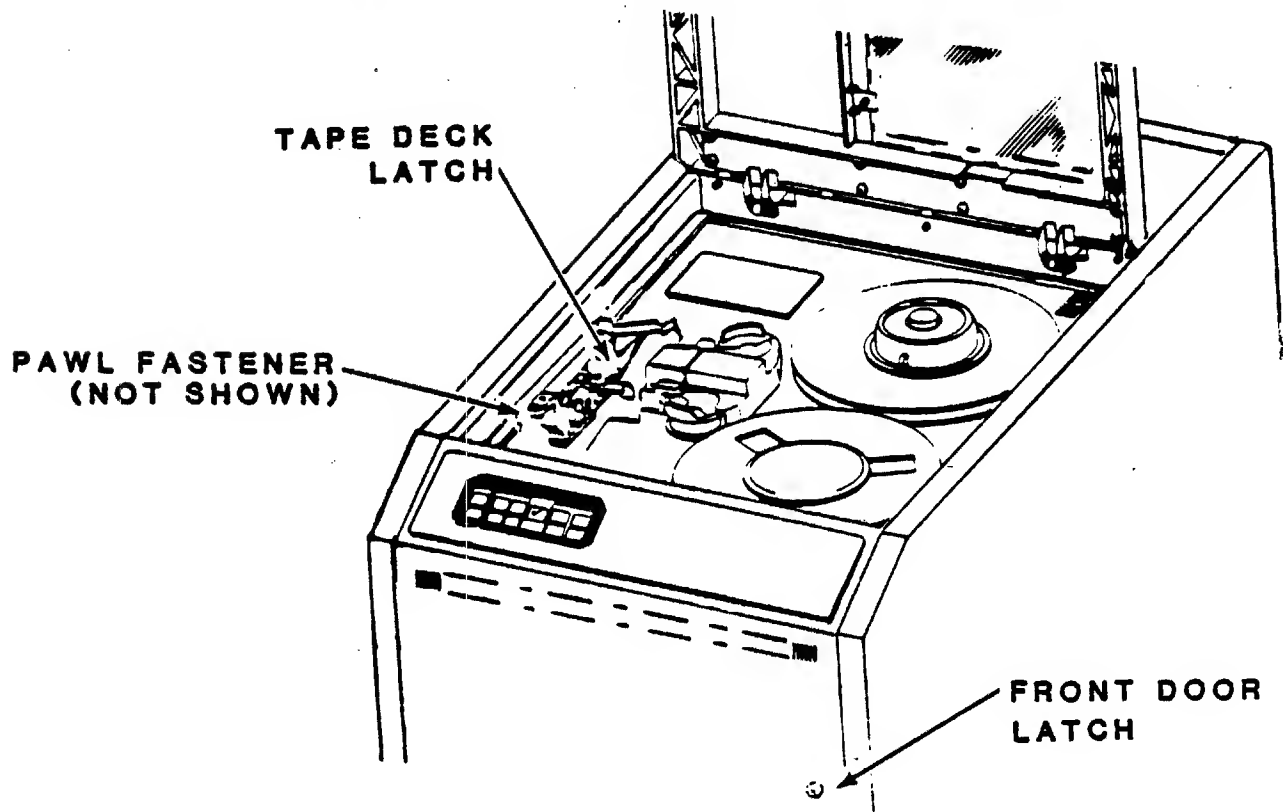

Figure 3-14. Tape Deck Access
12. Open the front dust cover door latch with a 1/8 inch hex wrench. See figure 3-14.